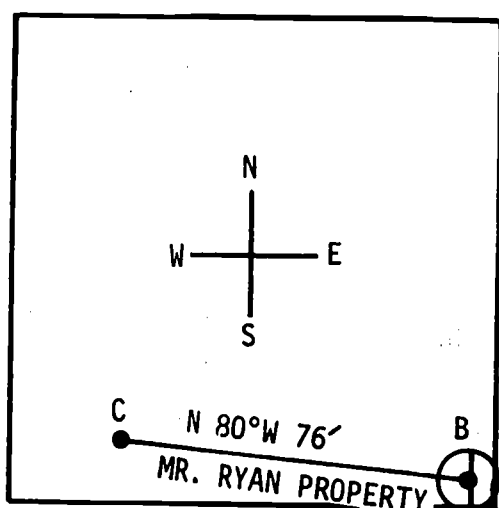

Fig. 7-7. Locating Point C
11. Place the direction circle over Point B, and measure 76' N 80° W along the north property line of Mr. Ryan. Drive a nail at this point (Point C). See Fig. 7-7.